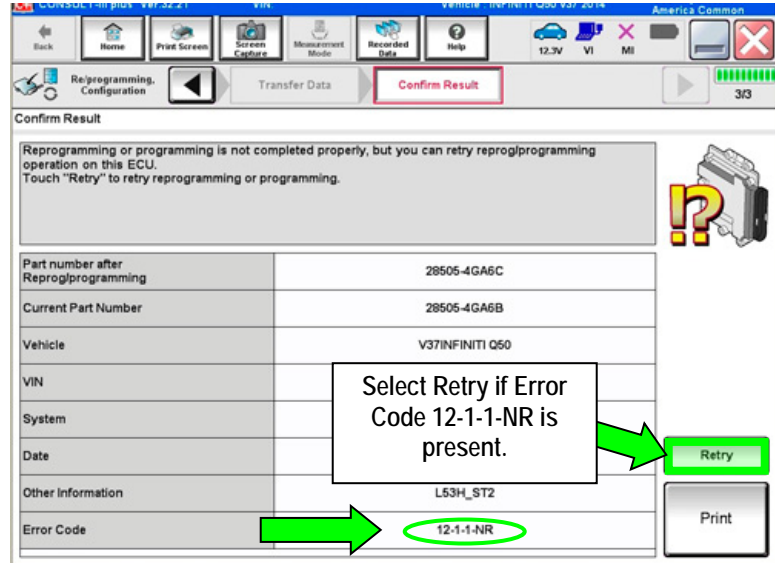

Figure 16
- If the progress bar freezes at 90% of a complete transfer to the VI and error code “12-1-1NR” is displayed (see Figure 16 on the next page), turn the ignition OFF, then ON, and then refer to Control Module Recovery on the next page.
If reprogramming does not complete and the “!?” icon displays as shown in Figure 16: